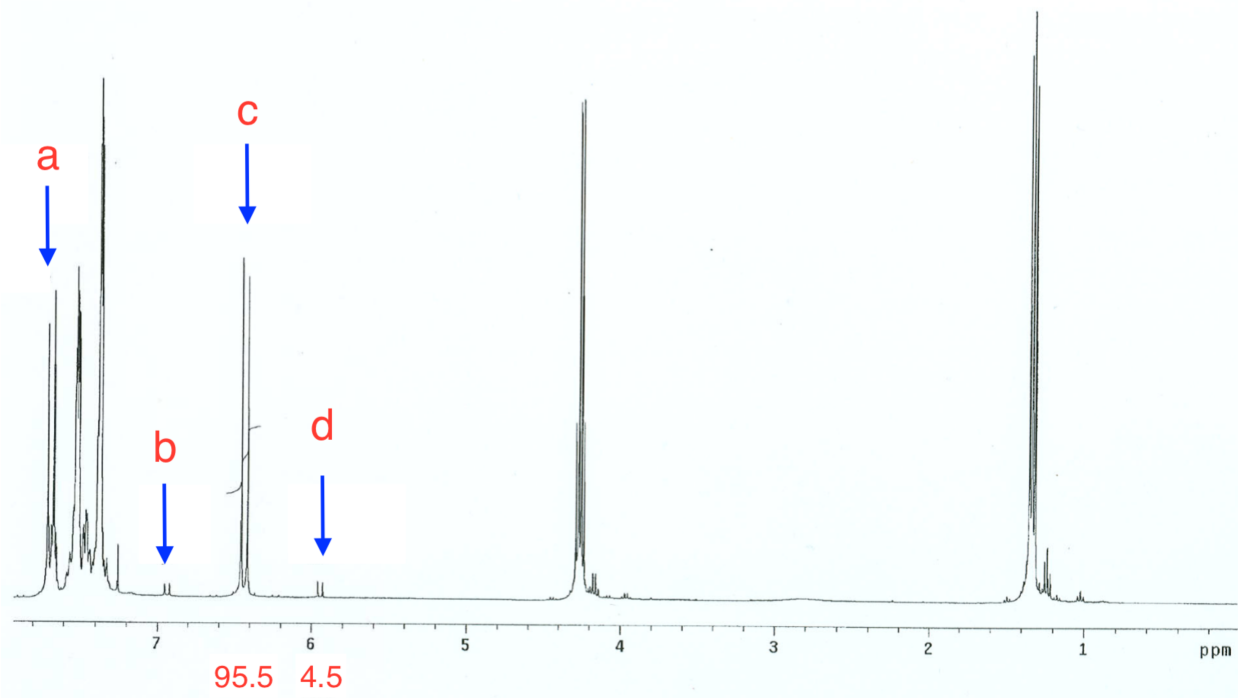

Figure 7. NMR Spectrum of Cis/Trans Ethyl Cinnamate
- 1) The ^1H NMR spectrum shown below in figure 7 corresponds to the products isolated from the same Wittig reaction that you performed in lab. Using this NMR, answer the following questions.